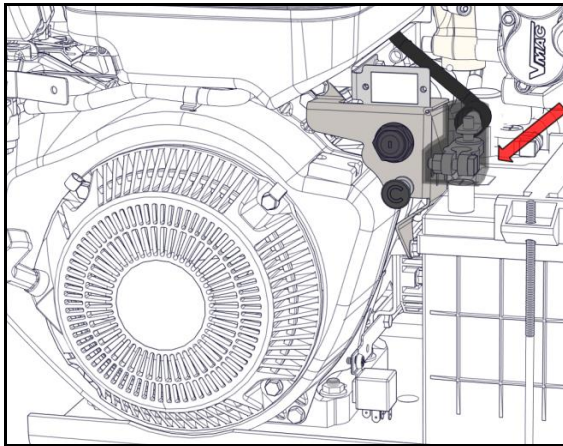

Figure 10 – Connecting negative battery cable
- 2) Connect the negative battery cable (Figure 10).